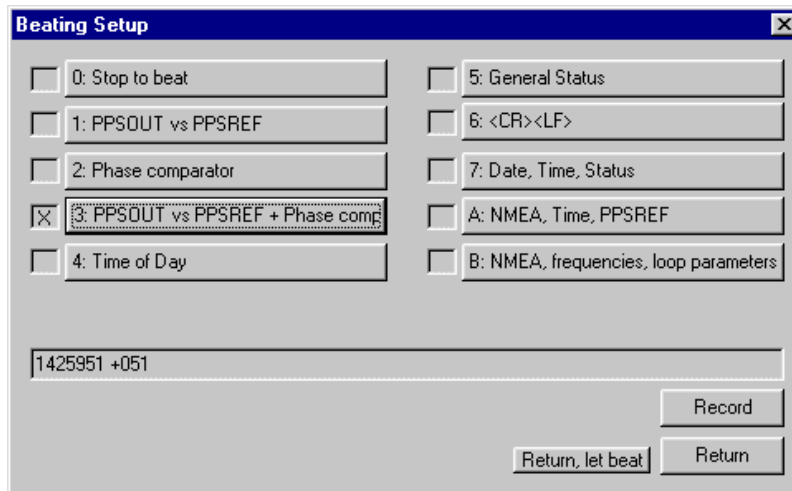

Figure 5 - Dialog Box “Beat Signal” Setup
- As described before, see Figure 5, these values can be continuously recorded by clicking on the button “Record”. The data coming out from the SRO are append to the file srolog.txt